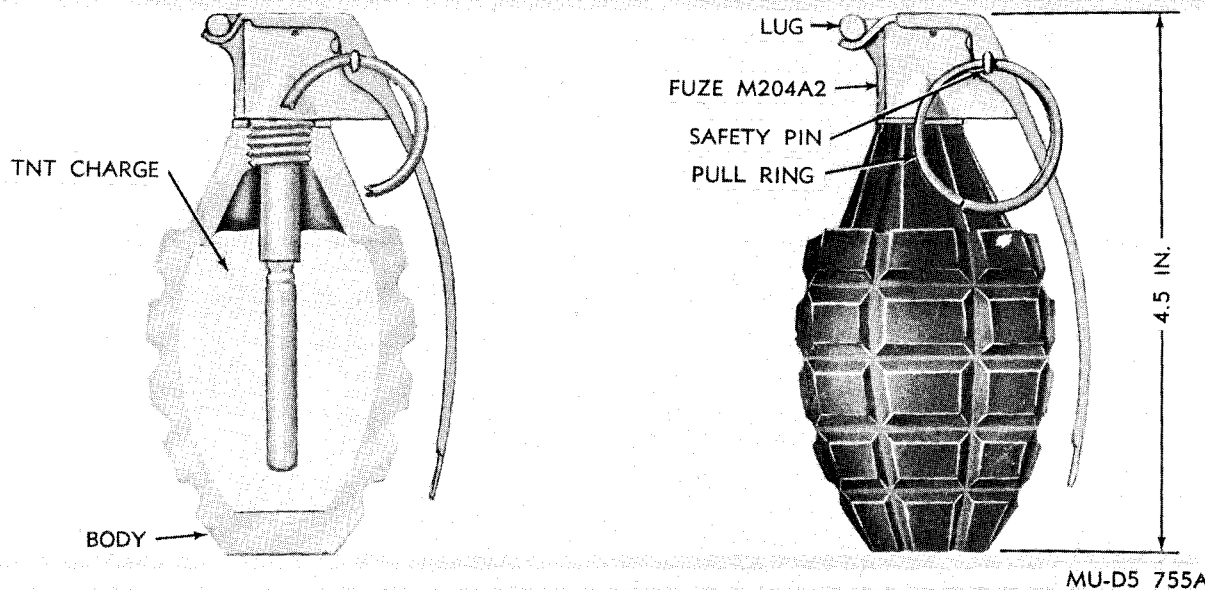

Figure 2-8. Fragmentation hand grenade Mk2.
a. *General.* Because of the shape and deep serrations of its body, Hand Grenade Mk2 (fig. 2-8) was dubbed "pineapple." These serrations delineate fragmentation of the body when the grenade explodes. No safety clip is authorized for use with this grenade.